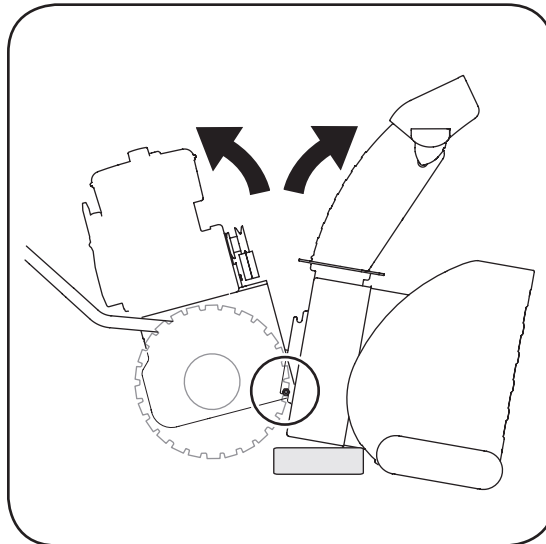

Figure 6-10
9. Place a block of wood underneath the auger housing as shown in Figure 6-10 and separate auger housing from the frame by tilting the housing forward and pulling up the handles.